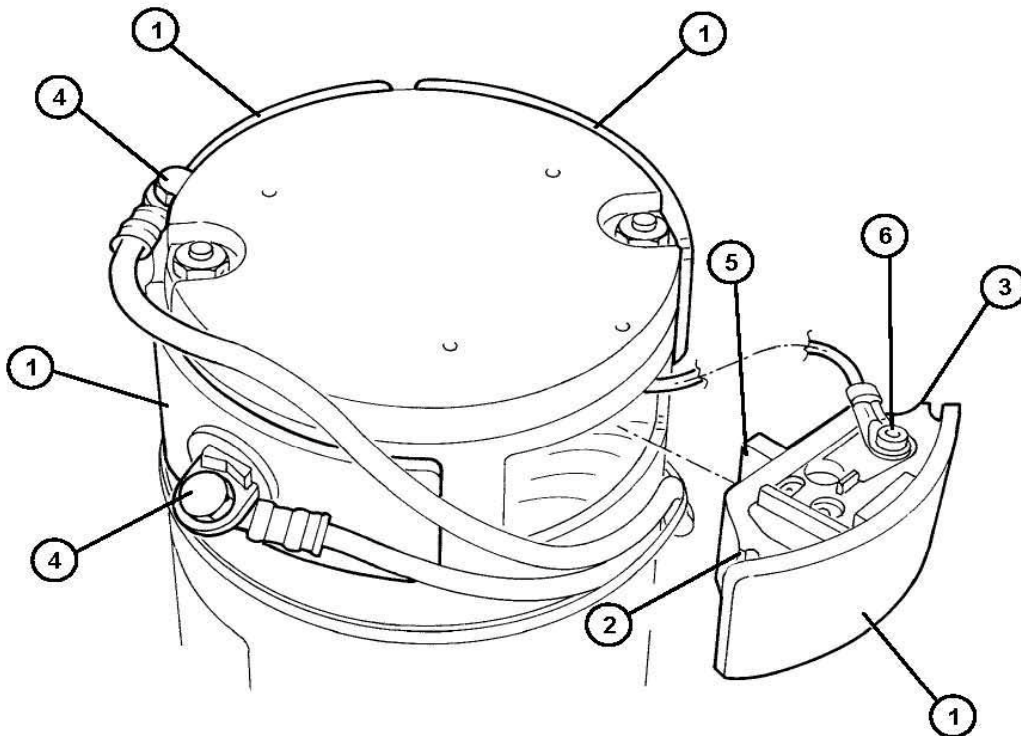

Figure 7-7
2. Externally cleaning the motor or dirt and dust, in the area of the carbon supports (1, **Figure 7-7**).
3. Remove the four carbon supports (1) after having disengaged the retainers (2) and (3). If necessary, disconnect the electrical connections (4).
4. Check the state of wear of the four carbons (5); the carbons are worn when sufficient contact with the armature of the motor is not provided because of their consumption, the non-integrity of the contact surfaces, broken thrust spring, etc. The minimum length of the carbons (5) is 15 mm, which, when reached must be replaced.
5. If necessary, disconnect the connections (6) and remove the carbons complete with support (1) to replace them. The carbons should be replaced all together.
6. For the reassembly, reverse the sequence of operations performed for disassembly, with the following caution: when fixing the terminals (6) pay particular attention to their isolation from the surrounding chassis parts.